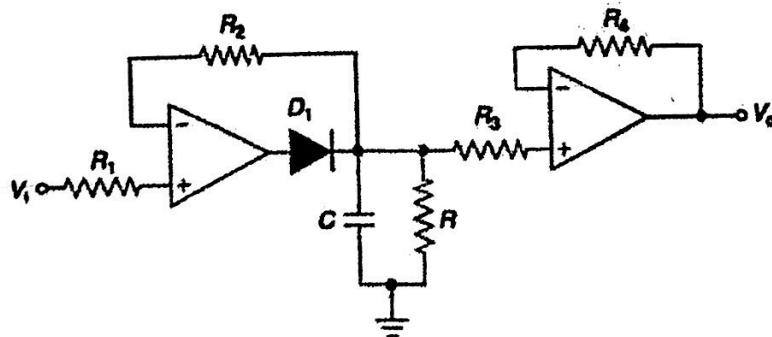

Figure 17.34: Peak Detector Circuit
- It is one of the applications of opamp (Figure 17.34).